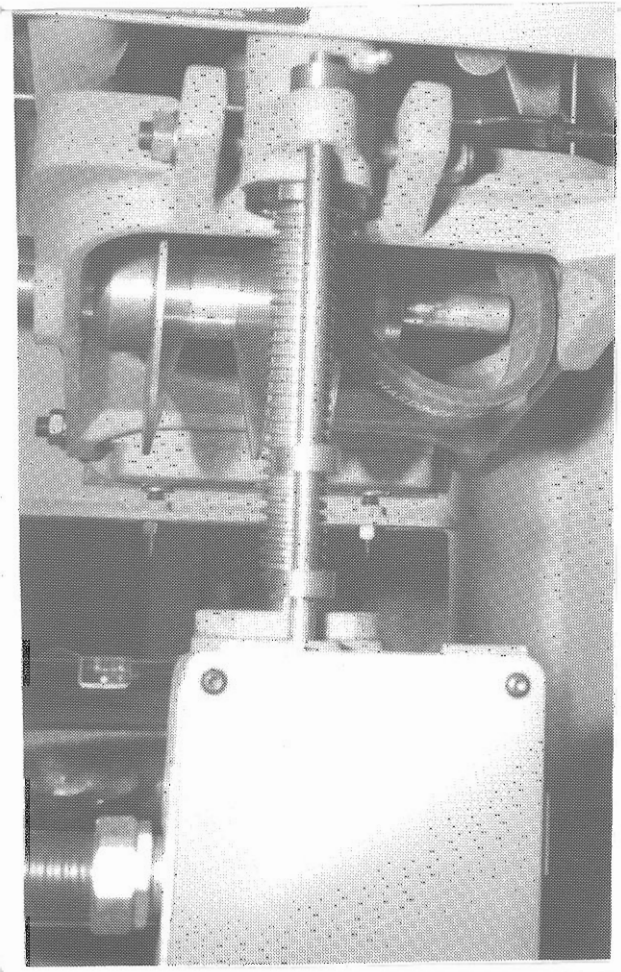

Figure 2.11 - Removing Belts
9. Slide countershaft to extreme left, as viewed from machine front, and remove belts over end of countershaft, Figure 2.11.